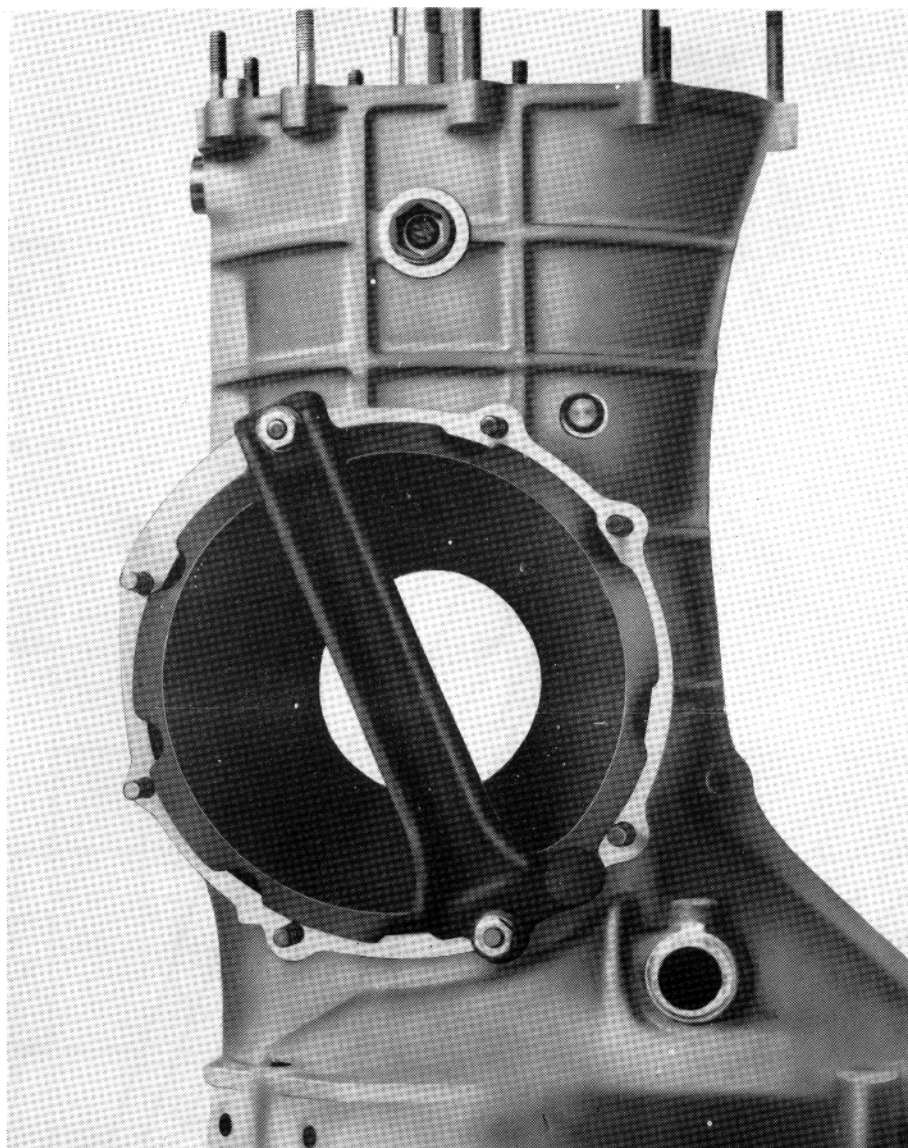

Fig. 2 The Hewland Setting gauge in position
4. Now assemble the setting gauge to the main case, as Fig. 2.